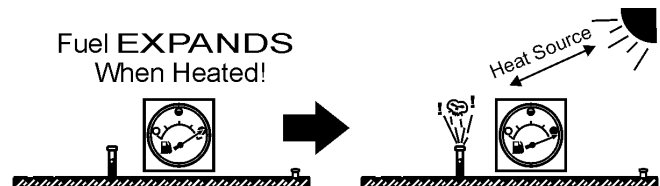

Figure 21. Fuel Expansion
**DO NOT OVERFILL** fuel system. Leave room for fuel expansion. Fuel expands when heated (Figure 21).